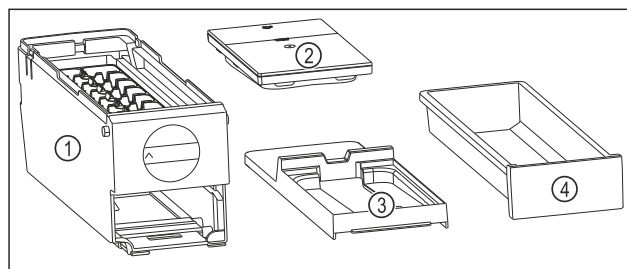

Fig. 150 Components of the EasyTwist-Ice
- EasyTwist-Ice is dismantled into four parts. (see Fig. 150)
- Only dismantle the EasyTwist-Ice into the components shown. (see Fig. 150)
- Clean the EasyTwist-Ice body Fig. 150 (1) as a whole.